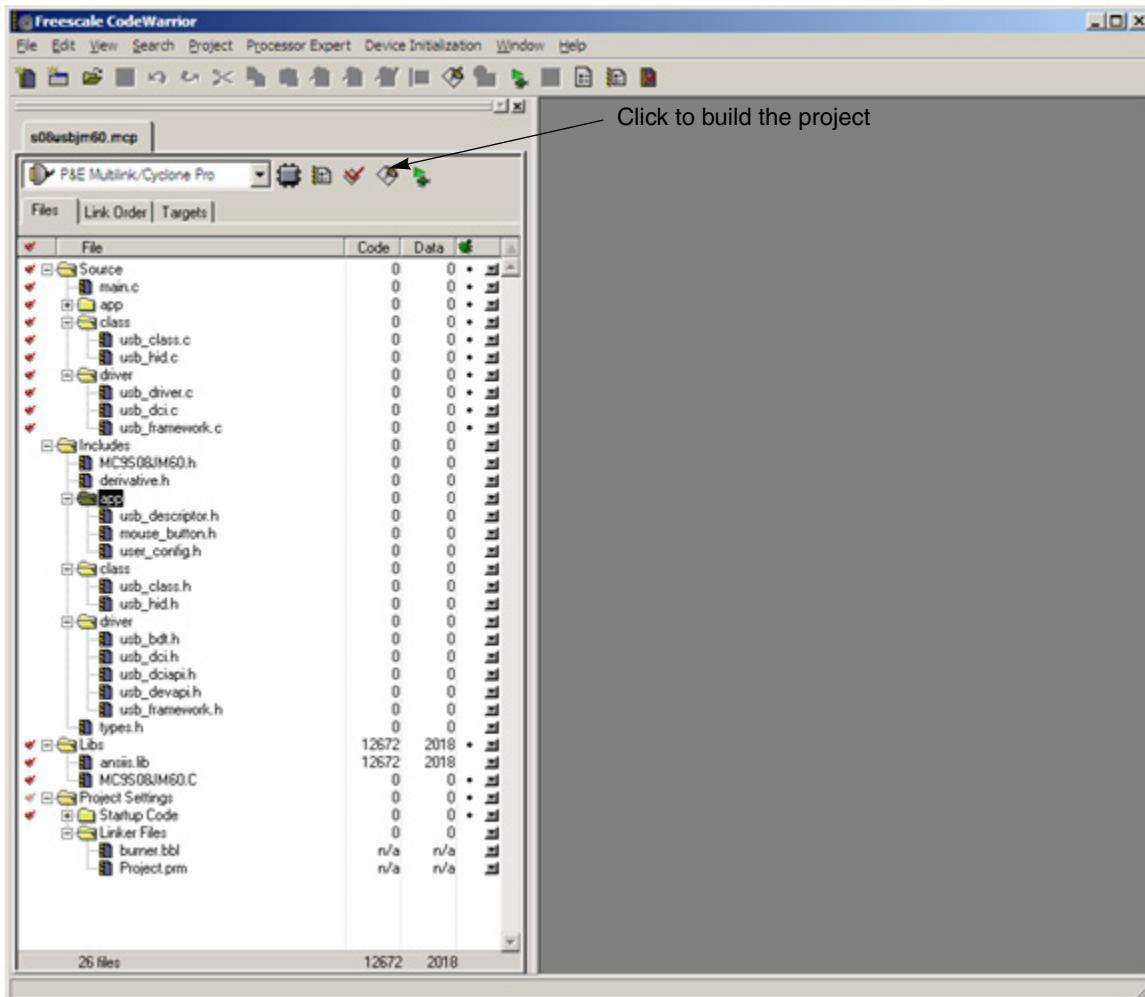

Figure A-9. Build s08usbjm60.mcp project
- After you have opened the project, the following window appears. To build the project, click the button as shown in Figure A-9.